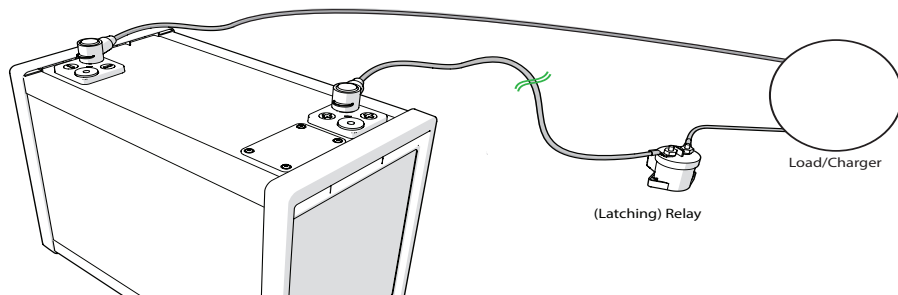

Figure 8. Securing the terminal covers
6. Place the terminal covers over the terminals (Figure 8)